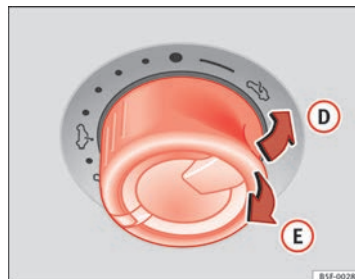

Fig. 58 On the interior roof lining: Press the button and pull on it to lift and close the sliding sunroof
⇒ Fig. 58
- Within five seconds of triggering the roll-back function, pull the control all the way back ⇒ Fig. 58 (arrow ②) until the panoramic sliding sunroof closes fully.